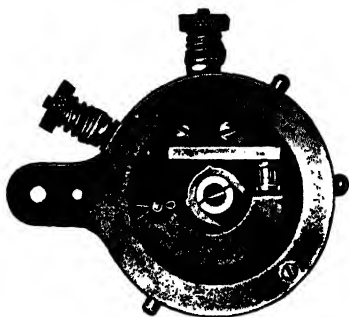

Fig. 121. Connecticut Interrupter
**Connecticut Battery System.** While this system also employs a single-spark interrupter, it is what is known as a "magneto type", and the similarity to those employed on magnetos for the same purpose will be noted in Fig. 121. A characteristic of this type of interrupter is that its contacts normally remain closed so that if the ignition switch is left on, the battery will be run down. To